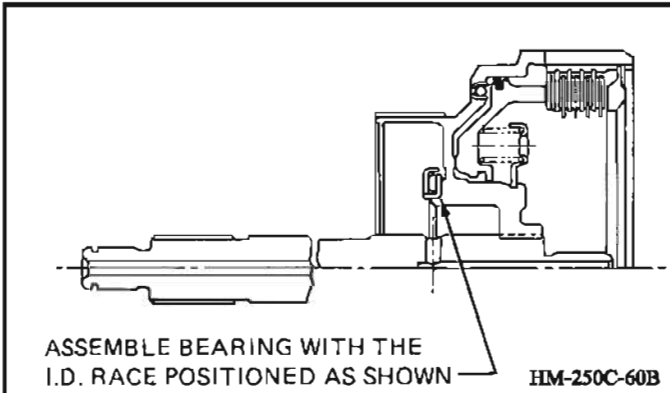

Figure 91 Forward Clutch Needle Bearing
1. Install direct clutch drum to forward clutch housing needle roller bearing. *See Figure 91.*